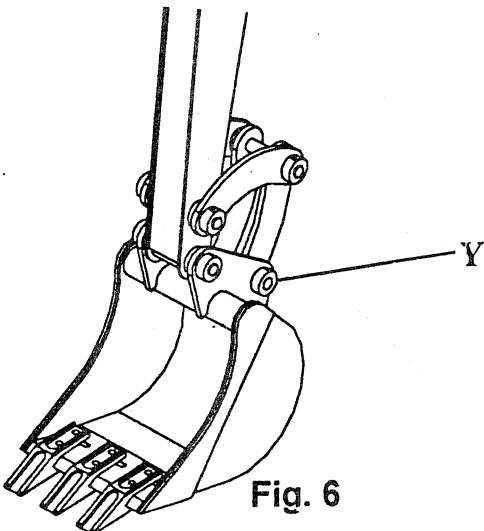

Fig. 6
5) After making sure that the area is clear, align the hole of the connecting rod **y** by means of the oleodynamic controls Fig.6